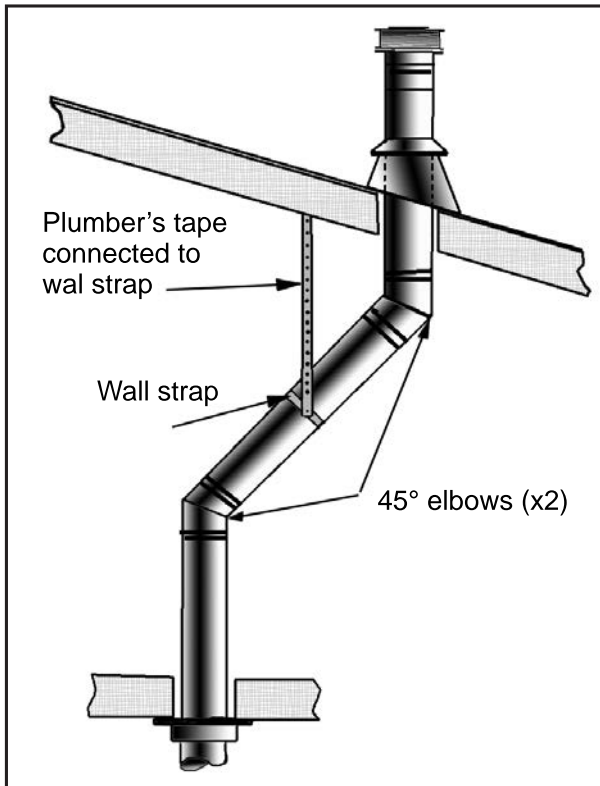
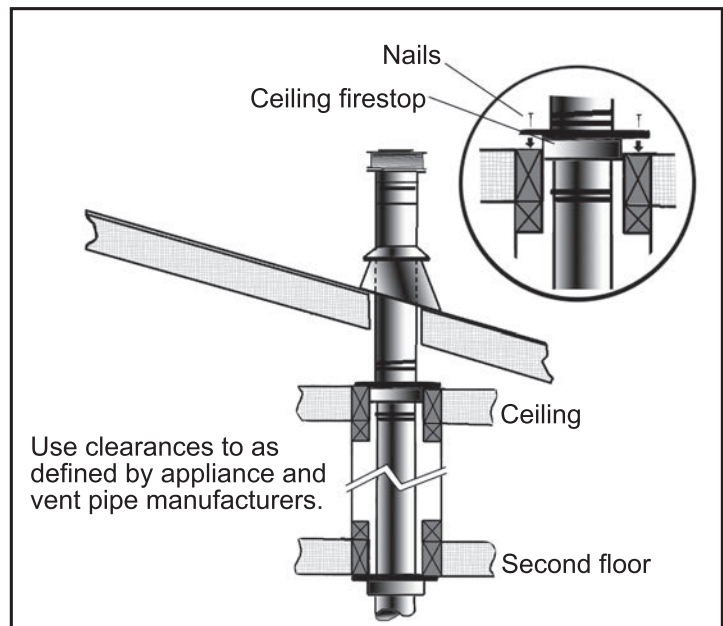

Figure 65: Use of Wall Straps.
Figure 66: Multi-Story Vent Pipe Installation
- (1) If an offset is necessary in the attic to avoid obstructions, it is important to support the vent pipe every **3' (914 mm)**, to avoid excessive stress on the elbows, and possible separation. Wall straps are available for this purpose (see Figure 65).
- (2) When ever possible, use 45° degree elbows instead of 90° degree elbows. The 45° degree elbow offers less restriction to the flow of flue gases and intake air.
- (3) For multi story installations; a ceiling firestop is required at the second floor, and any subsequent floors (see Figure 66). The opening should be framed to **10" (254 mm) x 10" (254 mm)** inside dimensions, in the same manner as shown on page 40.
- (4) Any occupied areas above the first floor, including closets and storage spaces, which the vertical vent passes through, must be enclosed. The enclosure may be framed and sheet-rocked with standard building materials. However consult the appliance manufactures installation instructions for the minimum allowable clearance between the outside of the vent pipe, and the combustible surfaces of the enclosure. Do not fill any required air spaces with insulation.